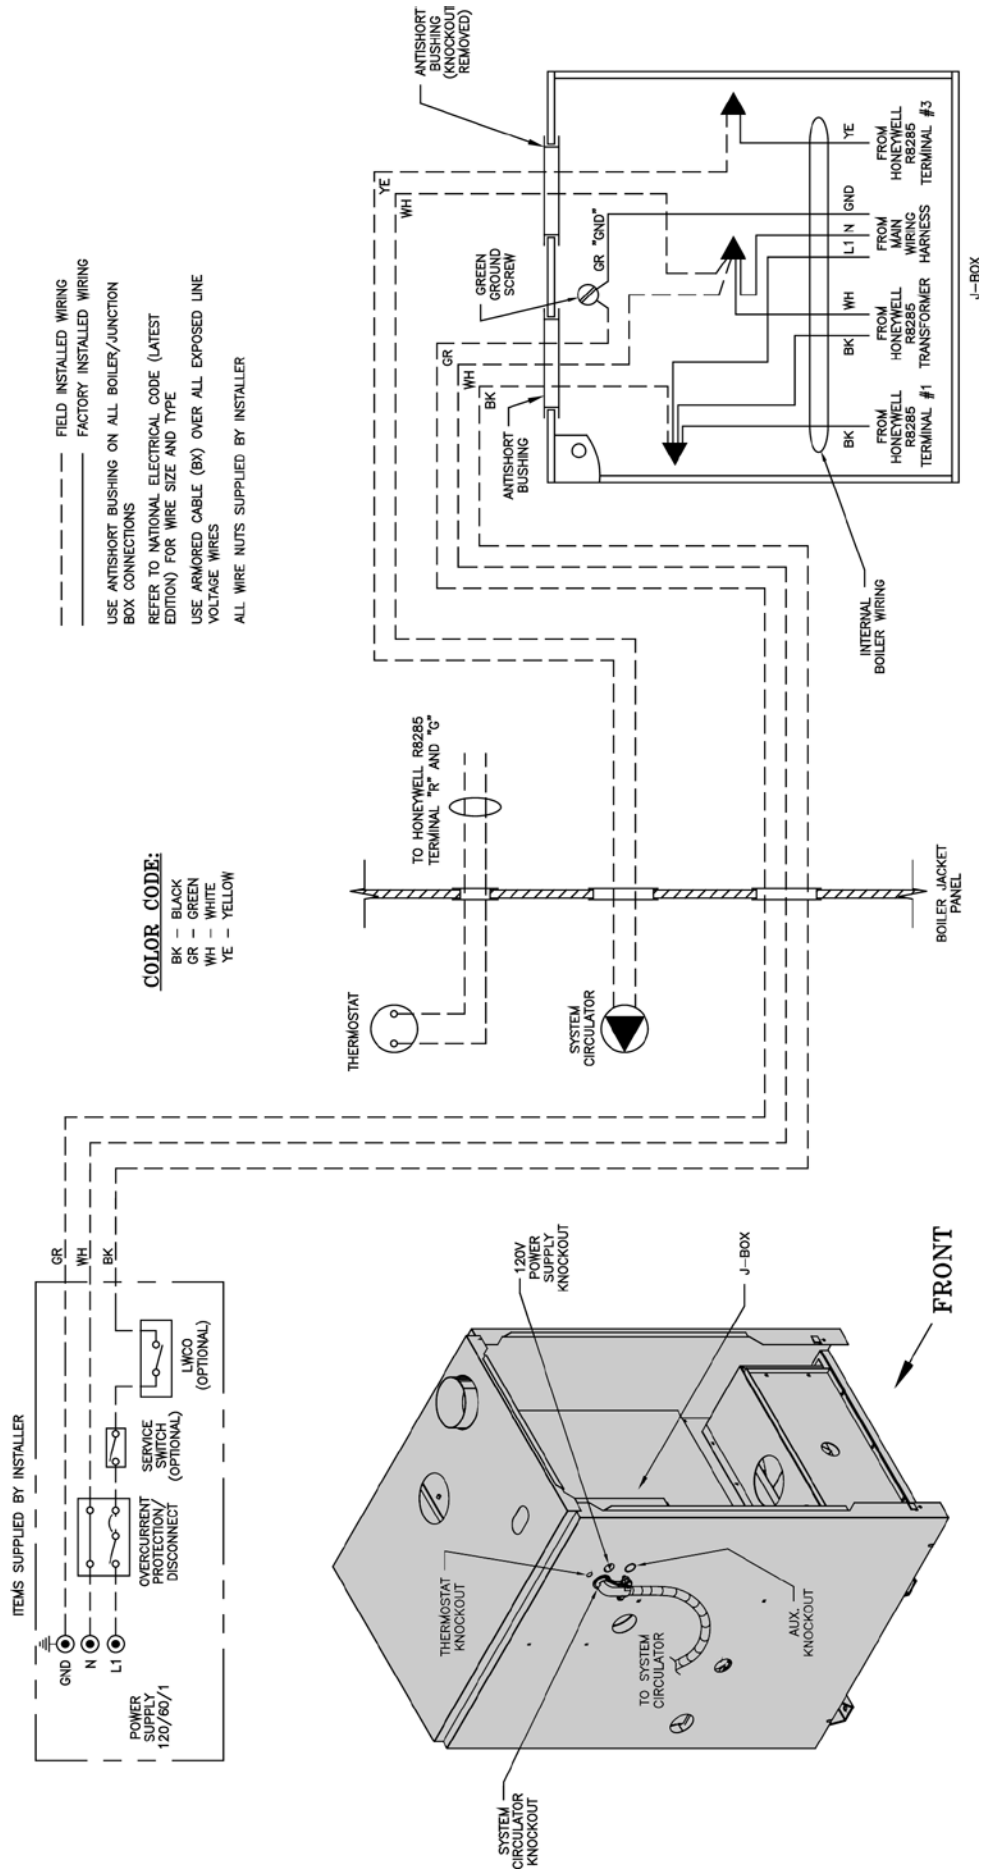

Figure 16: Single Heating Zone Only Wiring Schematic
3. Use armored cable (BX) over all exposed line voltage wiring.
5. Single Zone Heating System – Refer to Figure 16 of this manual for the electrical diagram for this type of system.